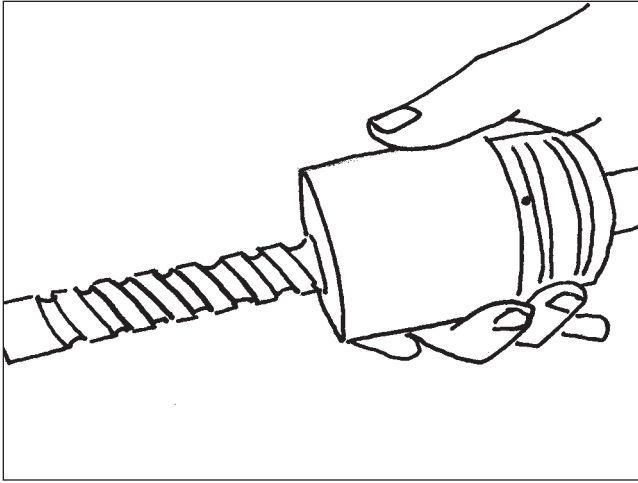

Figure 118
5. Using Tool # 3563972, compress the rotary valve seals to aid installation of the valve shaft (Figures 118 & 119).